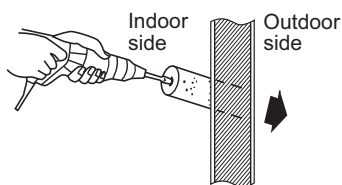

Fig. 2-67
- (8) If the tubing and wiring are to go towards the rear of the unit, make holes in the wall. (Fig. 2-67)